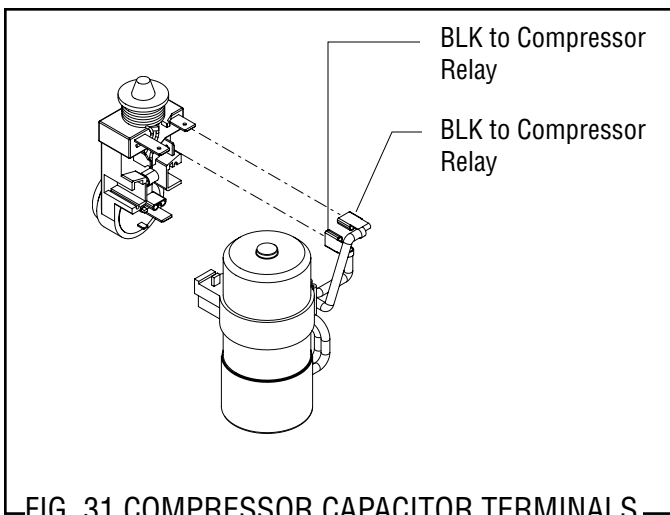

FIG. 31 COMPRESSOR CAPACITOR TERMINALS
##### Compressor Run Capacitor: Refer to FIG. 31
1. Remove terminal cover (4).
6. Refer to Fig. 31 and reconnect the wires.